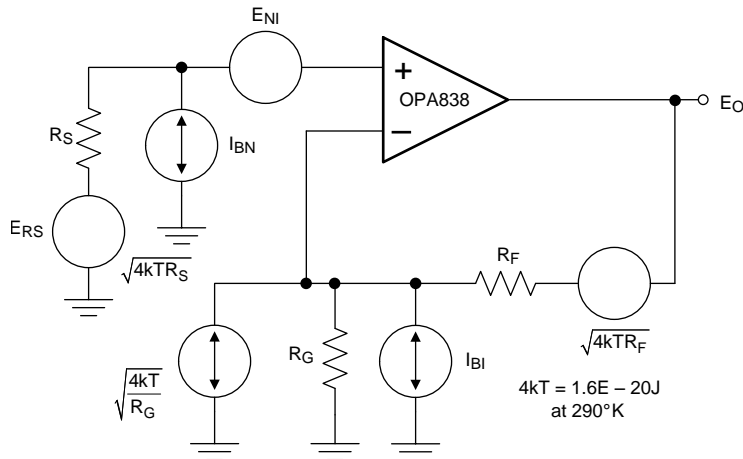
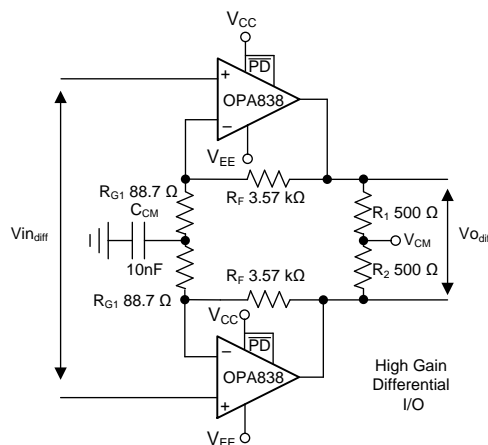
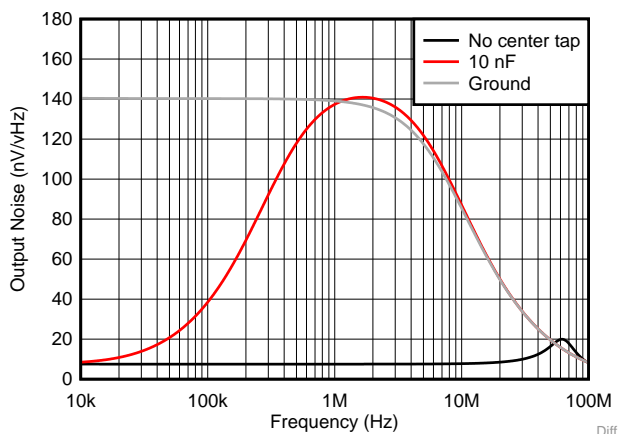

图 76. Op Amp Noise Analysis Model
图 77. High-Gain Differential I/O Stage
图 78. Common-Mode Output Noise for Differential I/O Design
The decompensated voltage feedback of the OPA838 op amp offers among the lowest input voltage and current noise terms for any device with a supply current less than 1 mA. 图 76 shows the op amp noise analysis model that includes all noise terms. In this model, all the noise terms are shown as noise voltage or current density terms in  $\text{nV}/\sqrt{\text{Hz}}$  or  $\text{pA}/\sqrt{\text{Hz}}$ .
The total output spot noise voltage is computed as the square root of the squared contributing terms to the output noise voltage. This computation is adding all the contributing noise powers at the output by superposition, then taking the square root to return to a spot noise voltage. 公式 3 shows the general form for this output noise voltage using the terms presented in 图 76.
A high-gain differential-to-differential I/O circuit can be used to drive a second-stage FDA or a differential-to-single-ended stage. This circuit is frequently used in applications where high input impedance is required (for example, if the source cannot be loaded). 图 76 illustrates an example design where the differential gain is 41 V/V. An added element between the two  $R_G$  resistors increases the noise gain for the common-mode feedback. It is important to provision for the added element because a decompensated VFA (like the OPA838) often oscillates without it in this circuit. With only the  $R_G$  elements in the differential I/O design, the common-mode feedback is unity-gain and often causes high-frequency, common-mode oscillations. To resolve this issue, split the  $R_G$  elements in half and add a low-impedance path such as a capacitor or a DC reference between the two  $R_G$  values.
As an example design, start with the circuit in 图 77.
- Assess the DC common-mode biasing on the noninverting inputs. The DC biasing must be in range and have a gain of 1 to the output. This is not illustrated in 图 76.
- If a DC reference is used as the mid- $R_G$  bias, setting the reference equal to the noninverting input bias voltage sets the output common-mode to that voltage. Using a capacitor as illustrated in 图 76 accomplishes the same results.
- Set the total  $R_G$  value near the high gain values using 表 1. This 178- $\Omega$  total must be split for a center tap to increase the common-mode noise gain, as shown by the 88.7- $\Omega$  value in 图 77.
- Simulate the common-mode noise with different elements on the  $R_G$  center tap, as shown in 图 78. Decide which is most appropriate to the application.
The common-mode loop instability without the  $R_G$  center tap is not often apparent in the closed-loop differential simulations. It can often be detected in a common-mode output noise simulation as 图 78 shows. Grounding the inputs 图 77 and running a output noise simulation for the common-mode tap point in 图 76 shows a peaking in the noise at high frequency. This peaking indicates low-phase margin for the common-mode loop. 图 78 shows this peaking in the lowest noise curve, with two options for improving phase margin. The first option used in 图 77 is a capacitor to ground set to increase the common-mode noise gain only at higher frequencies. This can be seen by the peaking in the common-mode noise of 图 78. Another alternative is to provide a DC voltage reference on the  $R_G$  center tap. This raises the common-mode noise gain from DC on up in frequency. Neither of these latter two show any evidence of low phase margin peaking. They do increase the output common-mode noise significantly at lower frequencies. Typically, an increase in output common-mode noise is more acceptable than low-phase margin as the next stage (FDA, ADC, differential to single stage) rejects common-mode noise.